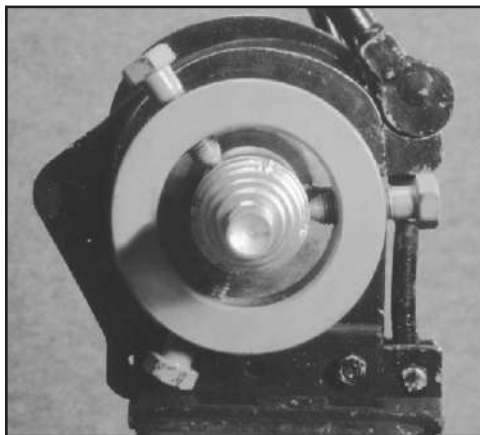

FIG. 21: REMOVAL RING
5. Position the removal ring on the V-groove between the stepped cone and casing tip. Firmly screw the 3 lock screws into the V-groove (see Fig. 21).